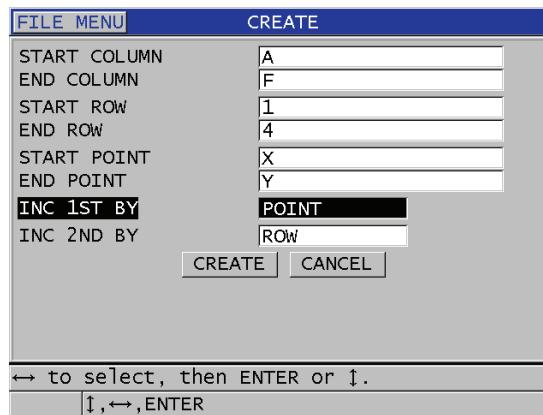

Figure 11-12 Configuring the ID range for a 3-D grid data file type
3. In the second page of the **CREATE** screen (see Figure 11-12 on page 170):